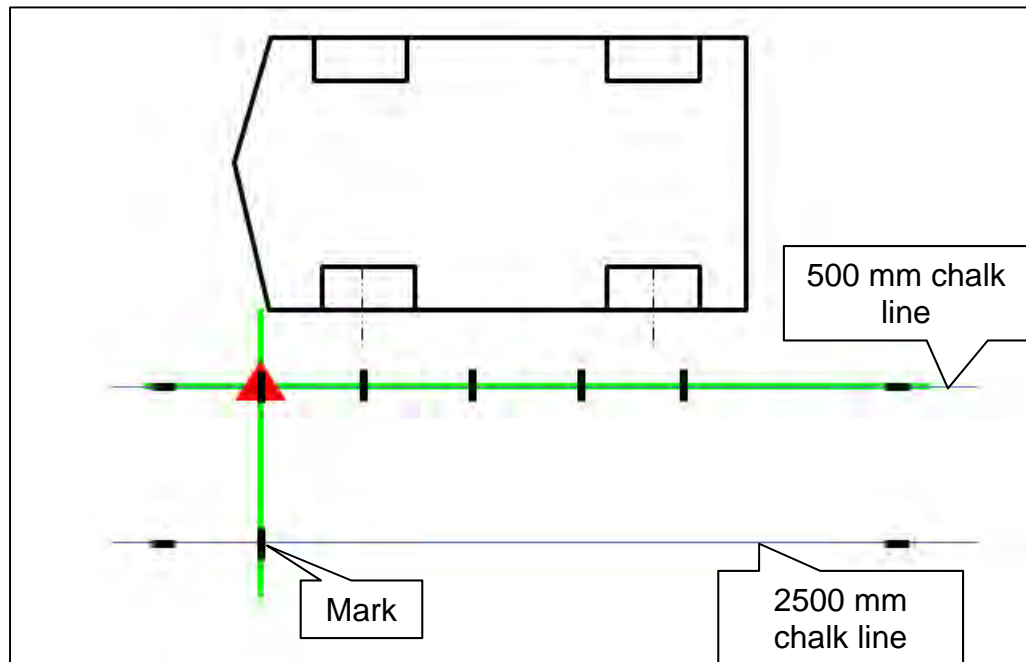

Figure 32
27. Move the laser level to the position shown in Figure 32, and then make a mark on the 2500 mm chalk line.